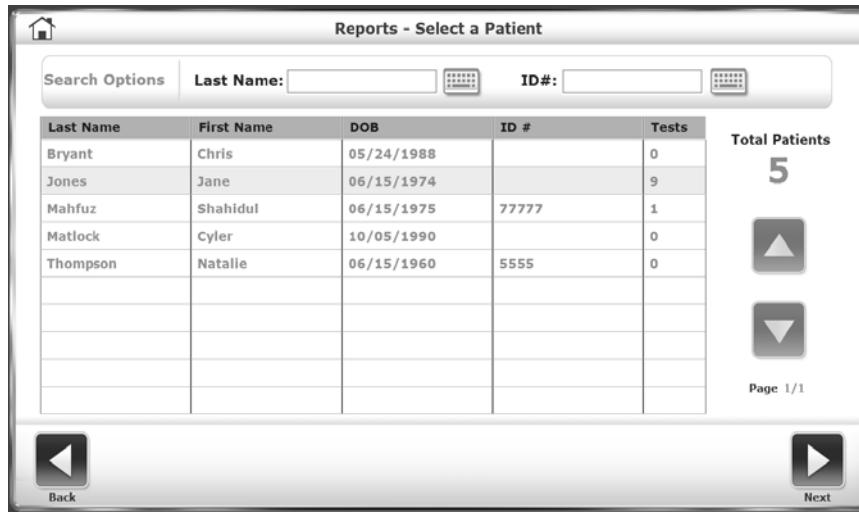

Figure 7.2. Selecting a Patient for a Report Screen.
1. Touch <Reports>, select the patient record, and touch <Next> (see Figure 7.2).